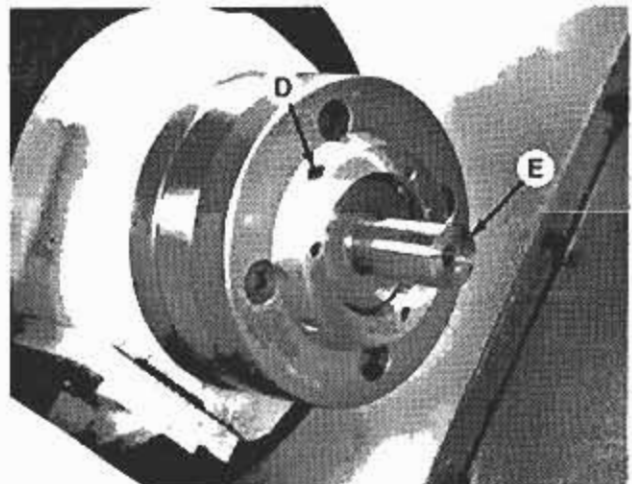
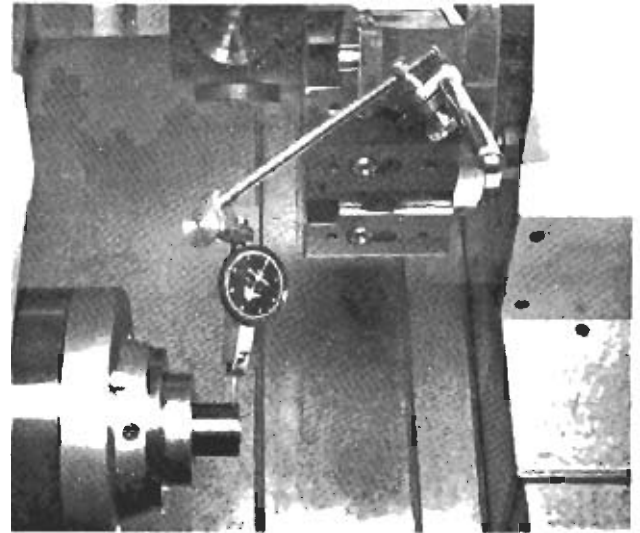

Figure 6 - Expanding Collet
Figure 8 - Dial Indicator
6. Install four concentricity adjustment screws "D", Figure 6, in the spindle collar.
10. Set up a dial indicator as shown in Figure 8, and adjust screws "D", Figure 6, until concentricity is obtained.
5. Set up a dial indicator as shown in Figure 8, and adjust screws "D", Figure 6, until concentricity is achieved.